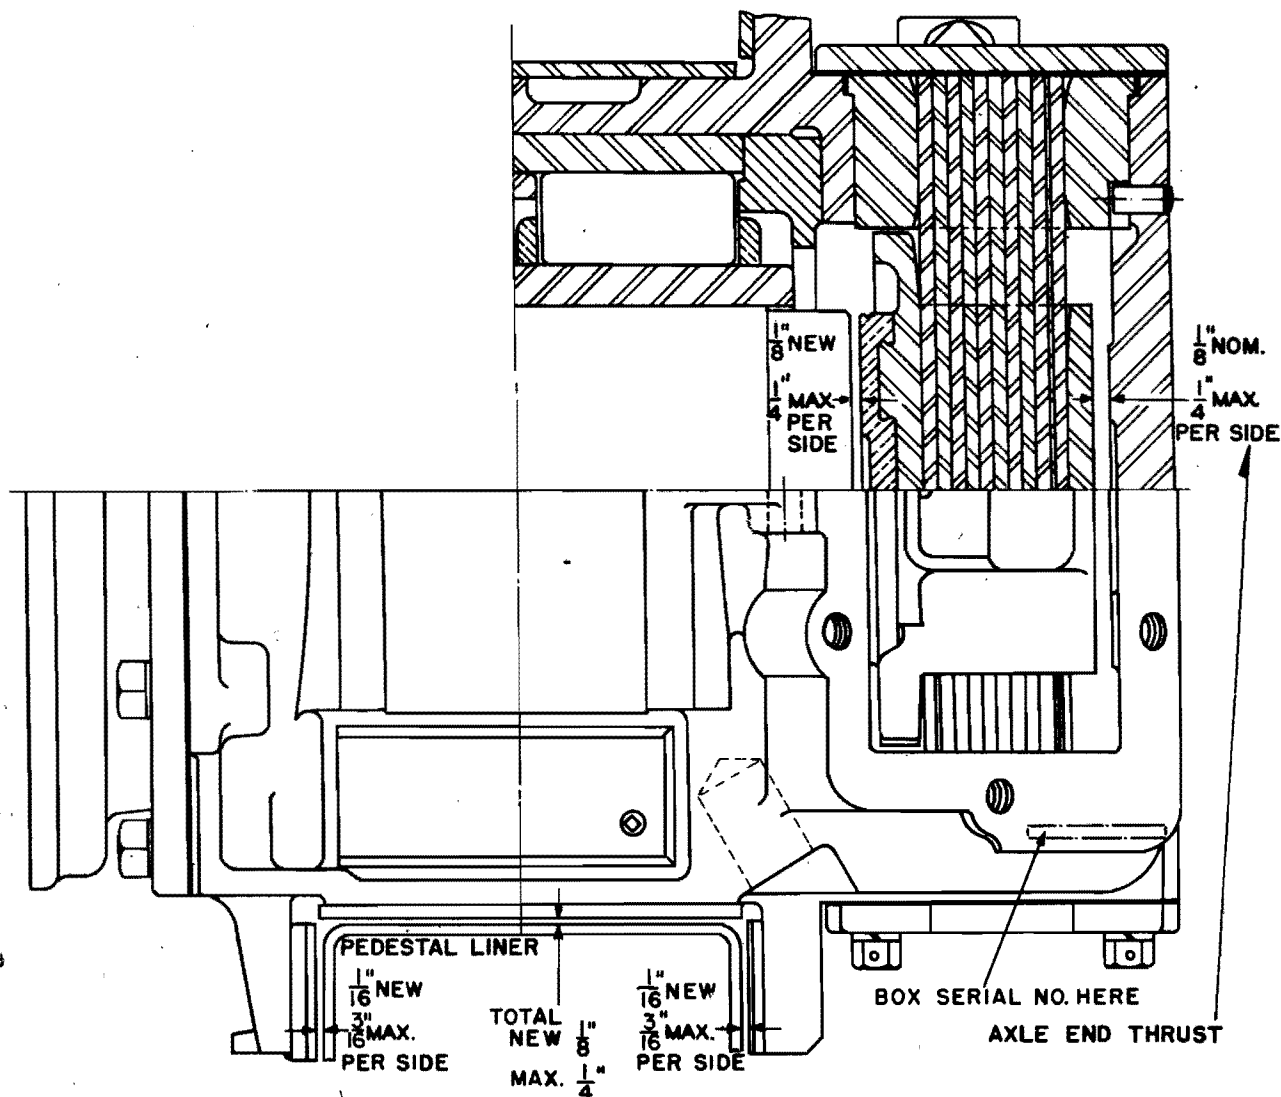

Fig. 10 - Plan View Of Plain Journal Box
10. Thoroughly inspect all parts and make notes of conditions, using serial number of the journal box and axle, and location of box on locomotive as references. It is suggested that particular attention be paid to those parts likely to be subjected to the heaviest duty. These will include journal box liners, truck pedestal liners, thrust bearings, roller retainment surfaces and all bearing parts. Thrust bearing wear should accumulate very slowly under normal conditions. The combined wear of liners and thrust bearing should not be allowed to accumulate beyond an amount at which proper lateral clearances can be maintained. See Fig. 10. Roller retainment surfaces and bearing surfaces may be continued in use as long as they are free from fatigue and rust. Fatigue is usually recognized by the appearance of pitting or shelling on the operating surface. If any parts require replacement for any reason, make special note of them in the record and segregate them for further examination and shipment back to Electro-Motive if necessary. When replacing pedestal way liners, they should be firmly clamped in position before welding. Strip liners are electric welded at top, bottom and 4" on the side. Always use stainless steel welding rod. Driving face liners are welded directly to the housing at top and bottom and at the four holes in the central portion of the liner.
In each journal box there is initial provision for a lateral clearance of 1/8" between the end of the axle and the thrust bearing and 1/16" between the inner pedestal way flange and the pedestal. In addition, the thrust bearing springs can be deflected 1/4" under pressure on the thrust bearing from the axle end. Thus, there is a total available lateral movement of 7/16" per box, Fig. 10.